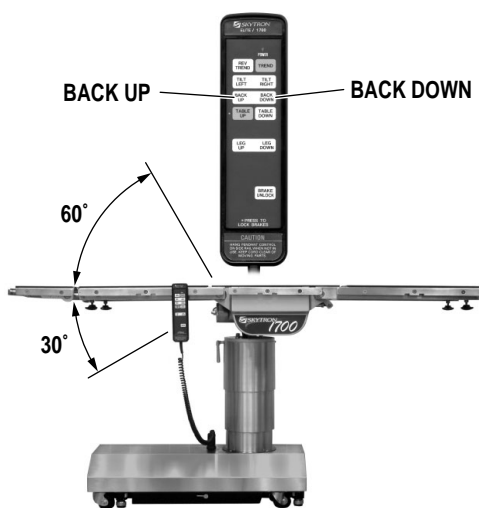

Figure 2-6. Back Section Positioning
d. Back Section. To raise the back section, press the BACK UP button (figure 2-6). The back section will raise up to 60° above horizontal. To lower the back section, press the BACK DOWN button. The back section will go down to 30° below horizontal.